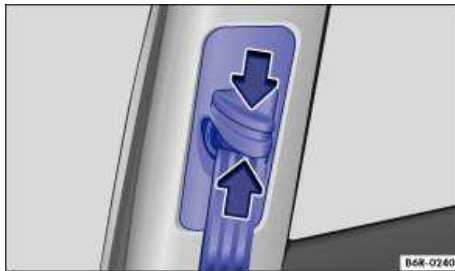

Fig. 53 Next to the front seats: Safety belt height adjuster.
- Pinch the safety belt attachment together as indicated by the arrows and hold ⇒ fig. 53.